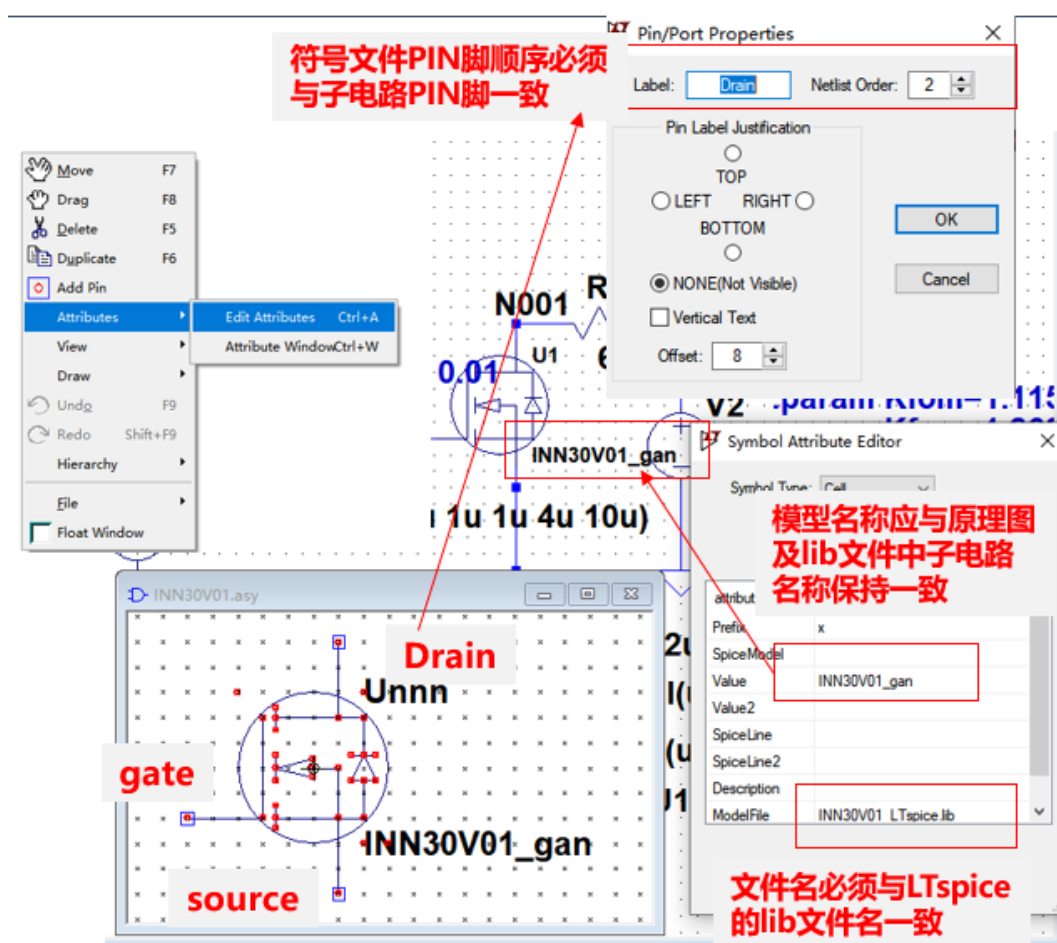

Fig.3. *.lib and *.asy file association
2. Associate with *.asy files. Open the *.asy file and press the shortcut key Ctrl+A to pop up the dialog box shown in Figure 3 below.